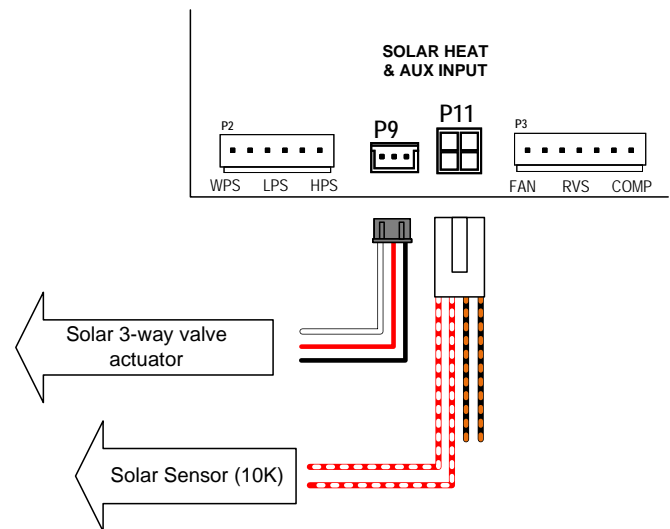

Figure 155. Solar Heat & Auxiliary Input
5. Inside the control box of the heater, connect the wires for the "Solar sensor" to the control board terminal labeled as "SOLAR" [P11] using the harness adapter labeled as "Solar Temperature Sensor / Auxiliary Safety Input" provided in the accessories bag. Connect the Red with White wires for a 10K temperature sensor and use the terminal [P9] to connect a standard 3-way valve actuator for the "Solar 3-way valve". Refer to Figure 155 for details.